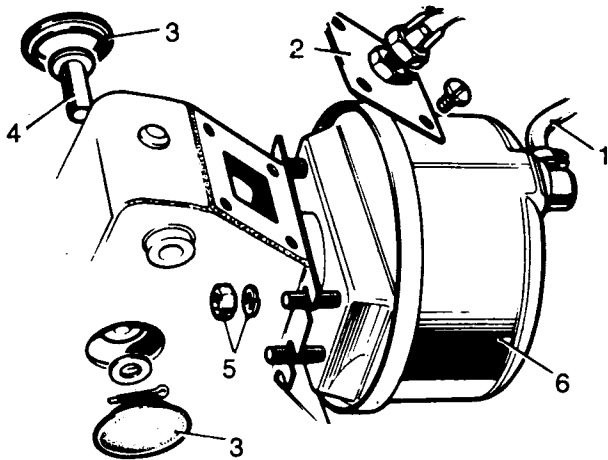

Fig K1.19
- (1) Refer to Fig K1.19. Disconnect the vacuum hose (1) from the servo assembly.
- (2) Remove the switch plate (2).
- (3) Remove the rubber plugs from the pedal box (3).
- (4) Remove the split pin and withdraw the clevis pin (4) securing the servo rod to the pedal.
- (5) Remove the fixings.
- (6) Withdraw the servo assembly (6).